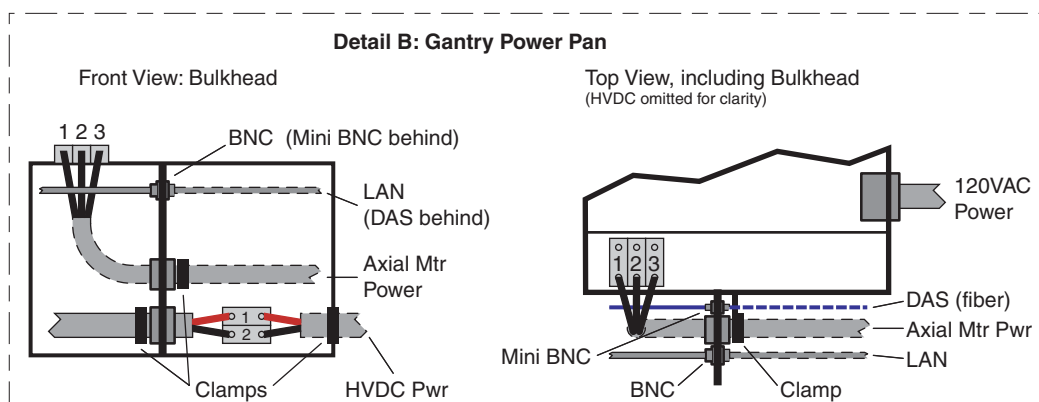

Figure 2-17 Power Pan Connections
- 2.) Install the cables to the gantry power pan. The power pan is located on the rear of the gantry at its base. (See "Detail B" Figure 2-17 of the system interconnect drawing for connections.)
Observe the correct phase rotation when connecting the axial motor power. Phases one, two and three should be connected left to right, as shown in Figure 2-17.